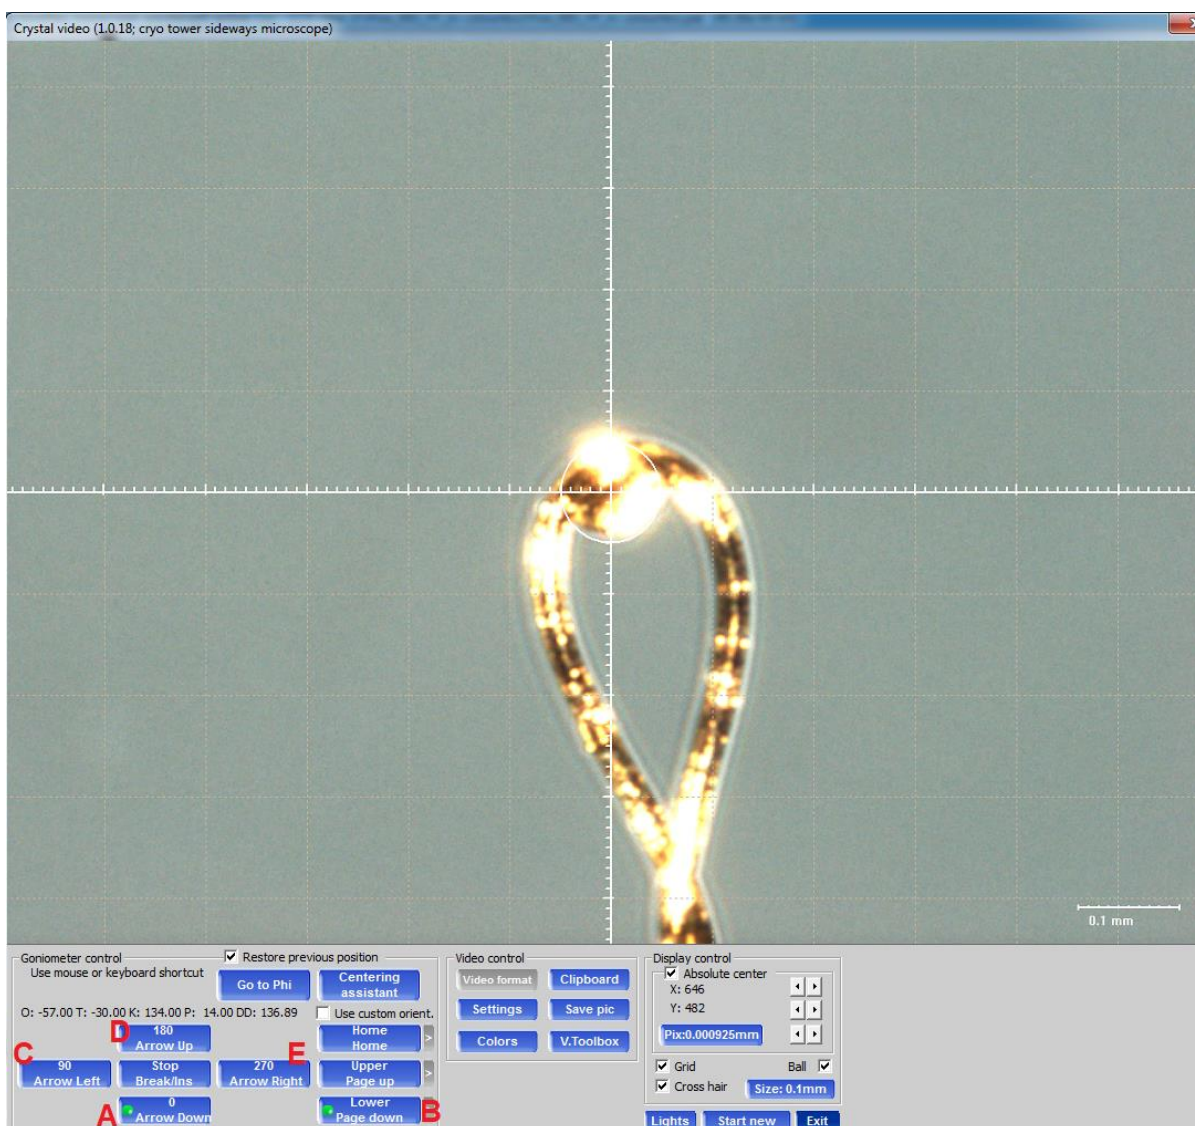

Fig. 5. Mounting and centering menu, with the *Arrow down* (A), *Lower Page down* (B) buttons, 90° rotation (C), 180° rotation (D), and 270° rotation (E) buttons.
2) Check that the goniometer is on the *0/Arrow Down* (Fig. 5A) and *Lower/Page Down* positions (Fig. 5B). If that's not the case, just press the corresponding blue buttons to put the goniometer in the correct position. If the buttons A-E in Fig. 5 are grey and not blue, it means the goniometer and detector are not yet in the mounting position.
7) Close the cabinet's door and hit the button *Doors OK* located on the right of the diffractometer (Fig. 8), and then click on *Exit* to leave the mounting menu (Fig. 5).